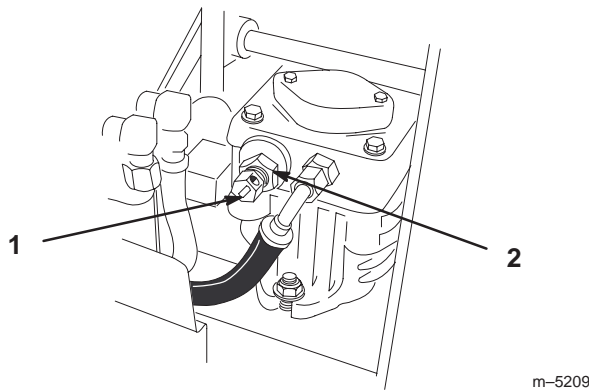

Figure 16
2. Loosen jam nuts and rotate by-pass valves open 5 turns to push. This allows hydraulic fluid to by-pass the pump and the wheels to turn (Fig. 16).